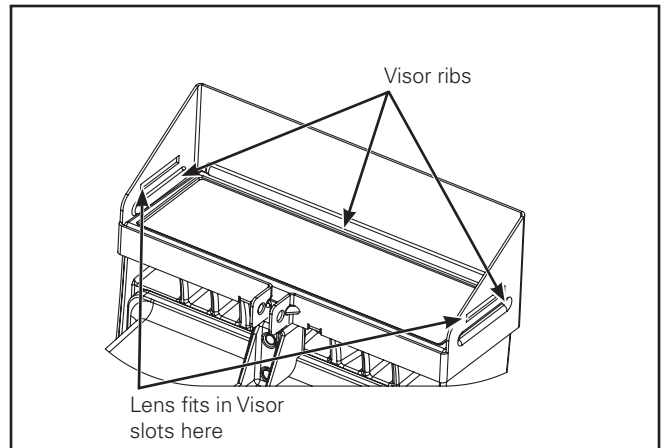
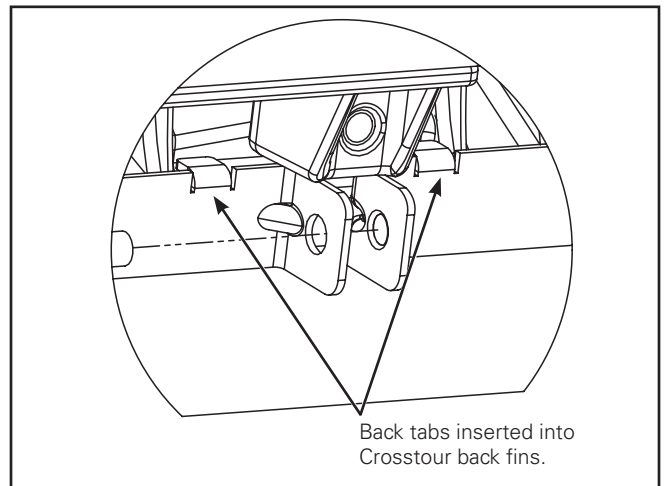
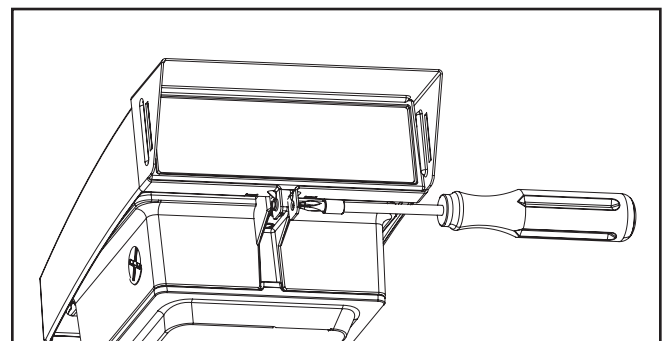

Figure 6.
Figure 7.
Figure 8.
- A. For visor installation only. Select the correct size lens (Small: 7W, 18W, 26W models. Large: 38W model). Remove protective film on the impact guard lens. Insert the lens into the corresponding slots of the visor by flexing the visor (Figure 6).
- B. To attach the visor, select the correct visor size. Slide the visor around the front Crosstour housing. The visor ribs should rest on the bottom surface of the Crosstour housing (Figure 6). Seat visor back tabs into the Crosstour fin cavity (Figure 7). Insert the 8-32 x 3/4" long, thread forming screw through the visor screw hole and tighten until visor is secure. Tighten/torque to 20-25 in-lbs. (Figure 8).